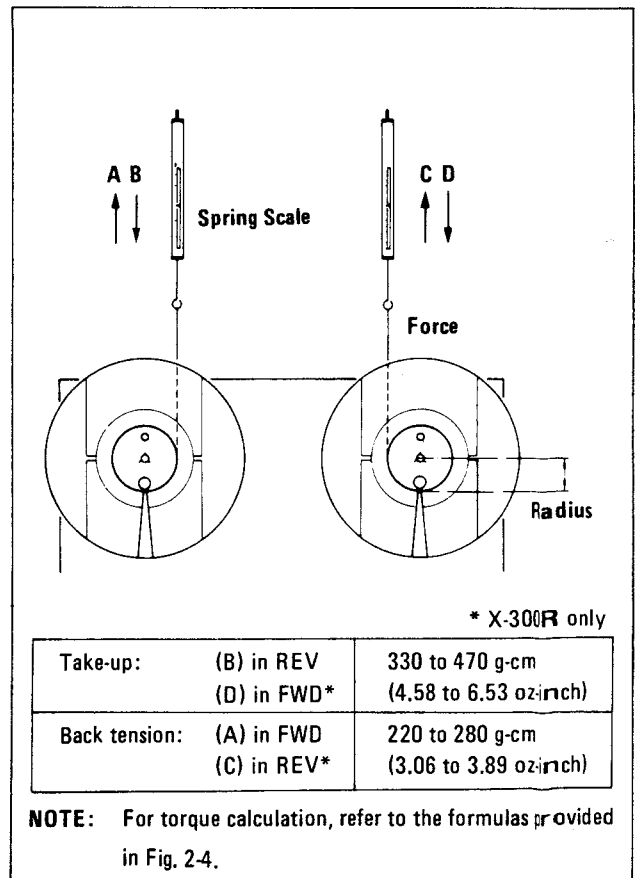

Fig. 2-5
11. The proper values are given in Fig. 2-5.